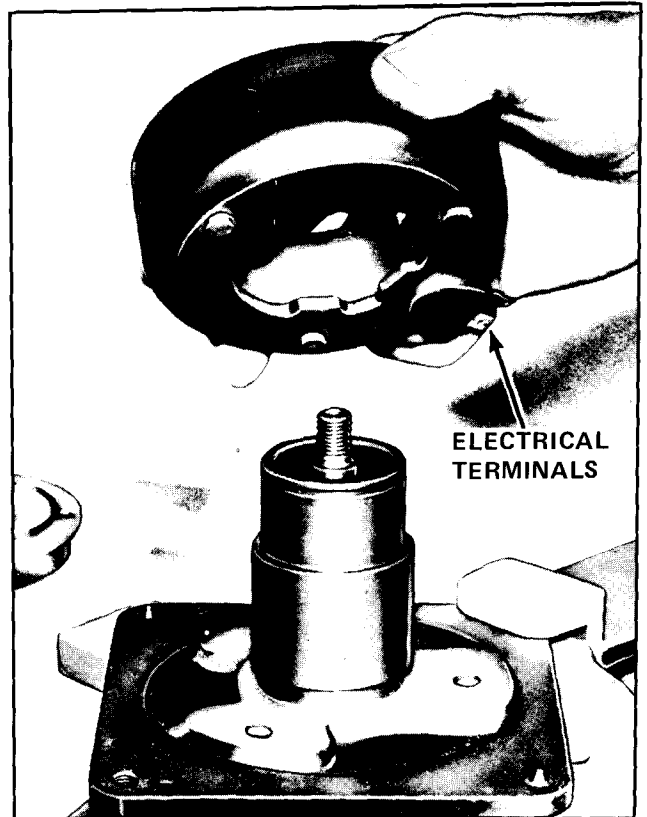

Figure 56—Installing Coil Housing
1. Position coil and housing assembly on compressor front head casting so that electrical terminals line up with marks previously scribed on compressor (figure 56).